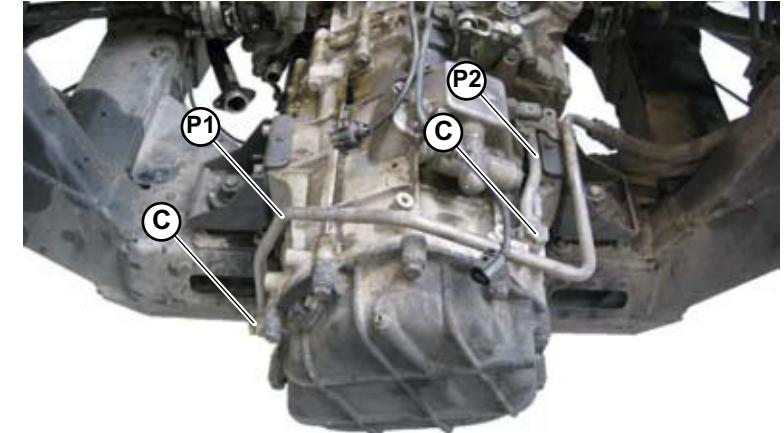

Fig.10
3. Unscrew the nuts (C-Fig.10) and disconnect the rear P1 and P2 pipes from the gearbox.